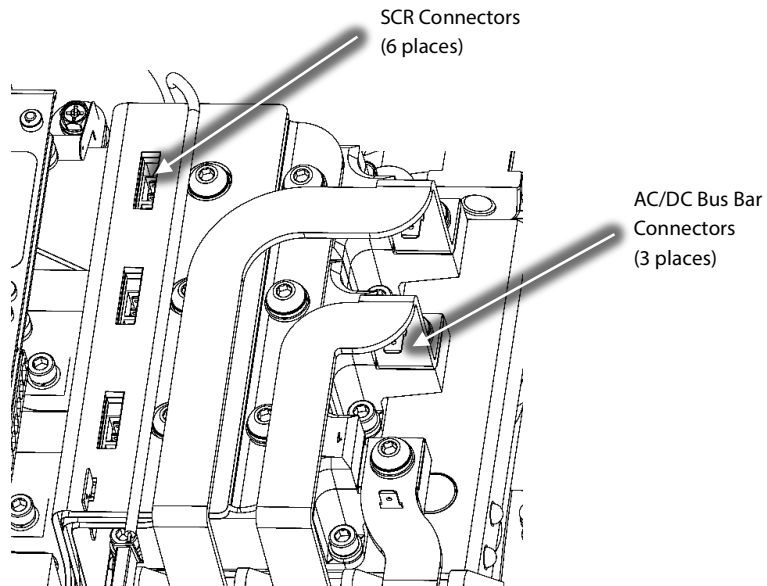

Figure 7 – SCR Gate Cable and AC/DC Harness Connections
14. Remove the Soft Start and AC/DC Cable Harness. Refer to Figure 7 (SCR Gate Cable and AC/DC Harness Connections).
15. Remove the SCR Gate Cables from the SCRs. Refer to Figure 7 (SCR Gate Cable and AC/DC Harness Connections).